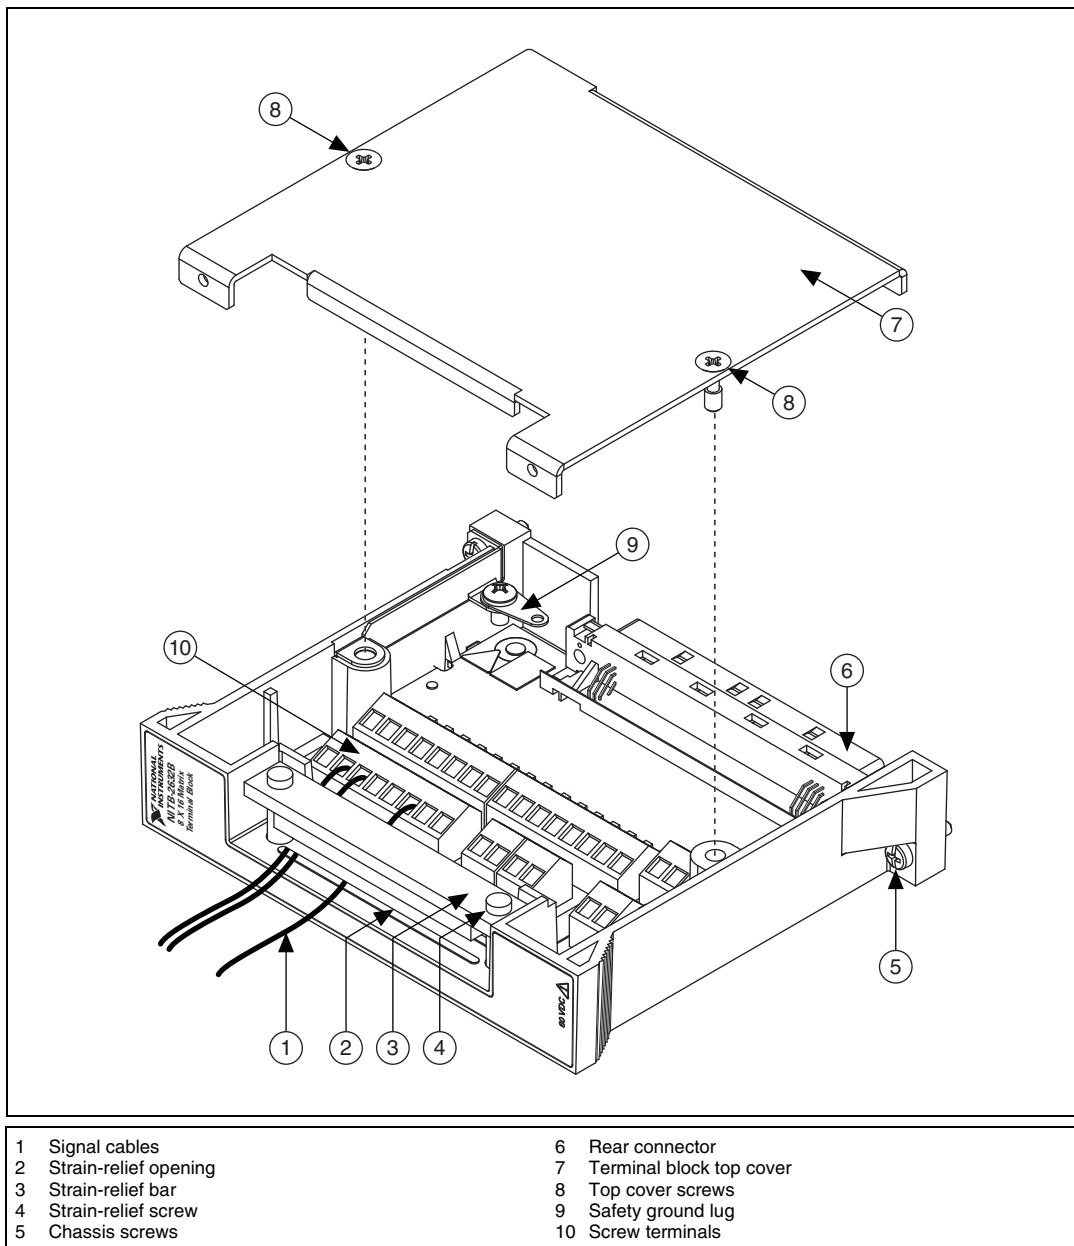

Figure 1. NI TB-2632B Terminal Block
5. Pull the signal cables through the strain-relief opening shown in Figure 1.
7. Connect the shield of the signal cable to the safety ground lug shown in Figure 1.